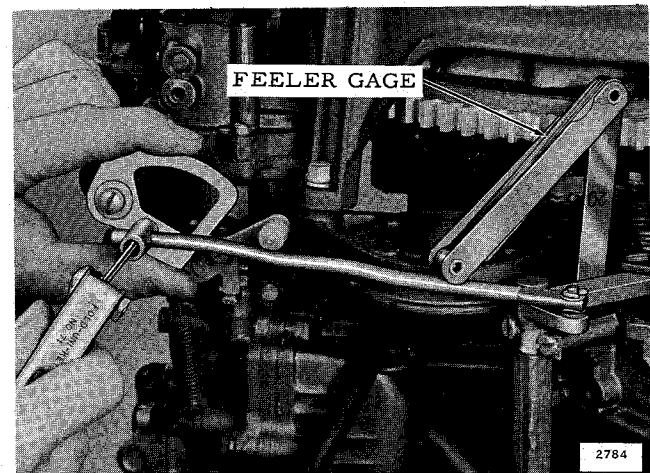

Figure 4-28. Adjusting Throttle Linkage
f. Replace the carburetor synchronizing rod through the pivot pin leaving set screw loose. With engine in forward gear, advance throttle lever to full open position and insert a .020" feeler gage between the control shaft arm and the stop on the control shaft bracket. See Figure 4-28. Hold cam in wide open position and tighten set screw. Replace lock screw.